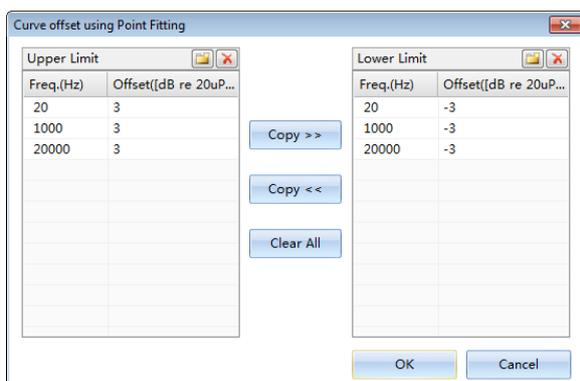

Figure 4.41 Fit Points Setup
(4) Curve limits setup method: Fit Points and Absolute Value.
- Fit Points: as shown in Figure 4.41. The “New” icon is used to add frequency and offset. The “Clear” icon is used to clear the set frequency band. The “Copy” button is used to copy offset between the upper and lower curve limits. When setting curves limits using Fit Points, it is necessary to sweep frequency once to get a benchmark curve. The Fit Points translate data according to the set offset. If the offset is different, for example, 3dB for 20Hz and 5dB for 1000Hz, in this case, the point shift 3dB at 20Hz and shift 5dB at 1000Hz, for points between 20Hz and 1000Hz, the offset is translated according to the slope of the curve.